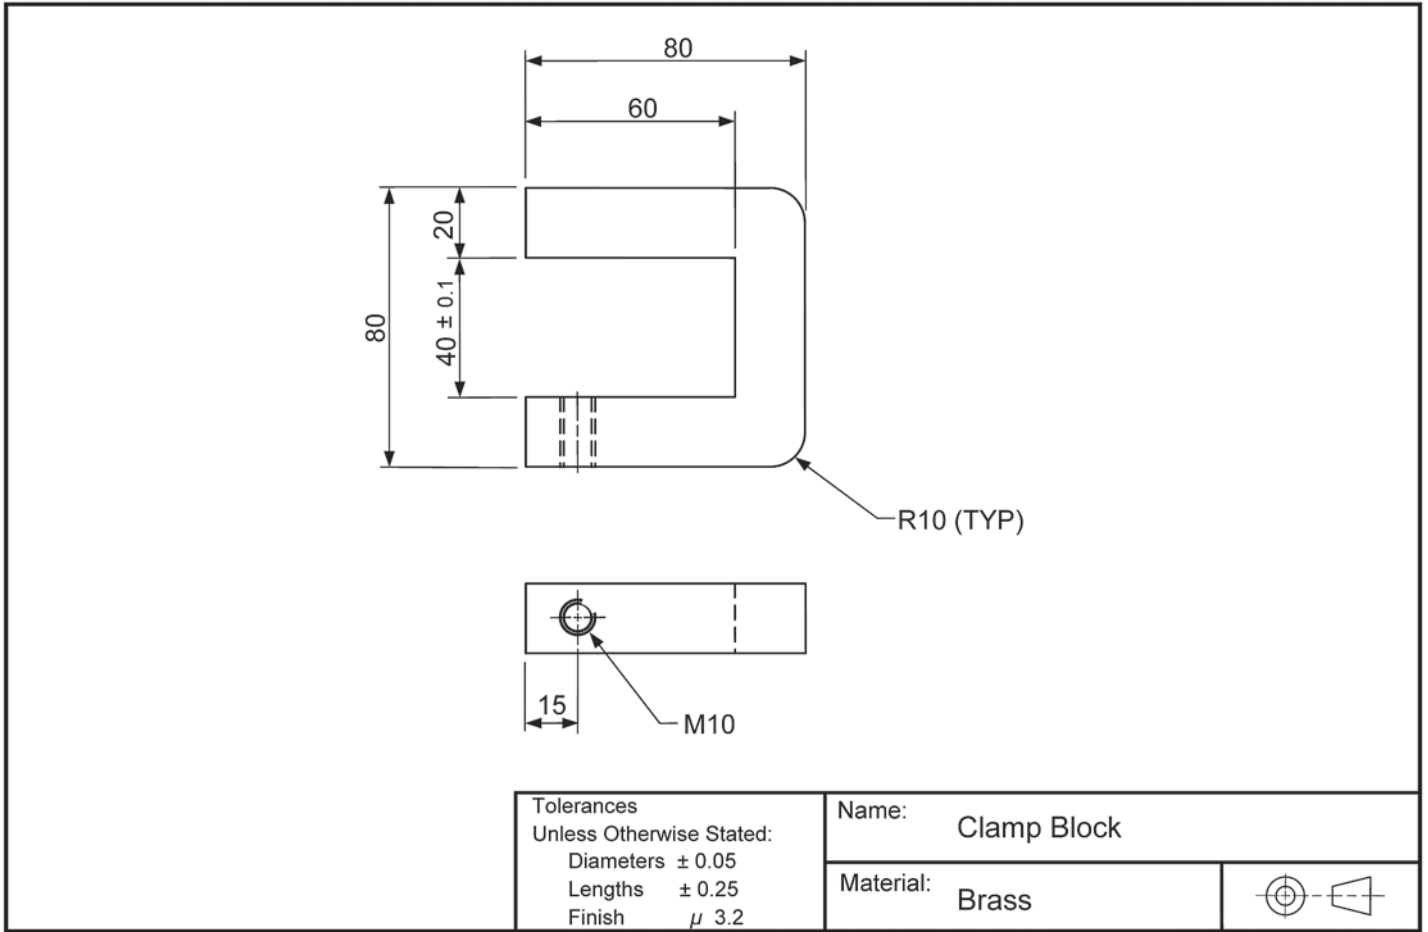

Figure 2
Figure 2 shows a detailed drawing of a clamp block.
- c. In the space provided below, sketch an isometric view of the clamp block shown in Figure 2.